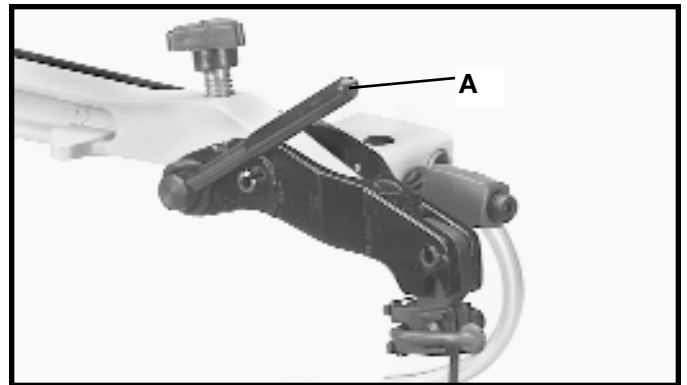

Fig. 3
2. Move the blade lever tension handle (A) Fig. 3, to the forward position as shown.